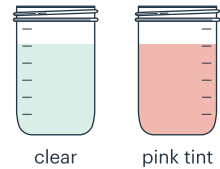

Figure 16
- 5 Examine the water in each glass. It should be clear without any pink or red tint. If the water is not clear, make sure the washer on that filter is in the correct location (between the filter and the chamber base) and that the wingnut is securely tightened (Figure 16). Repeat the red dye test to ensure that the dye test passes.